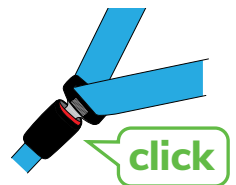

Figure 11
Step 3. Fasten the buckle. Listen for a 'click!' (Figure 11).